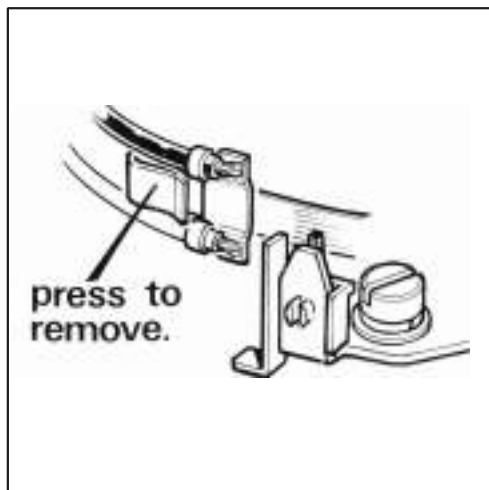

Figure 47 Correct replacement of points
- 2 Press the terminal end of the moving contact spring towards the cam . (**Figure 47**). This will disengage the spring from the insulating piece attached to the terminal post, the capacitor lead and low tension fly-lead can then be detached from the folded end of the spring, Remove the slotted screw securing the fixed-contact and lift the contact-breaker assembly from the base plate.
- 3 When replacing the contact breaker set it is important to note that the capacitor and low tension fly-lead connecting terminal in the folded end of the moving-contact spring, has the cable clips facing outwards, otherwise the lower clip may foul the fixed contact plate and short-circuit the contact breaker. (**Figure 47**).